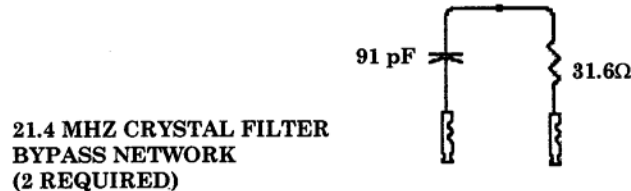
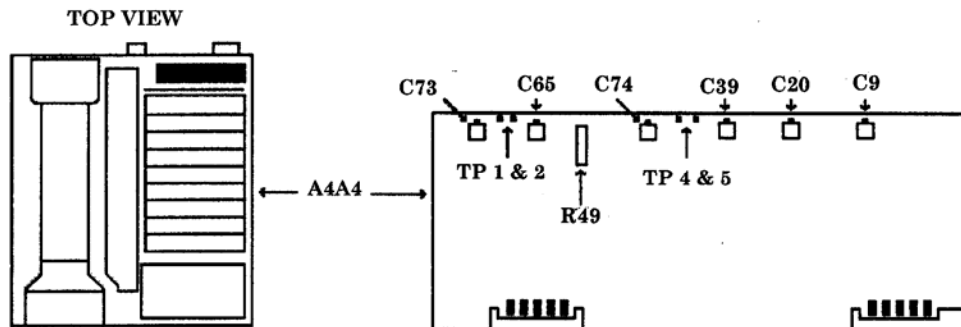
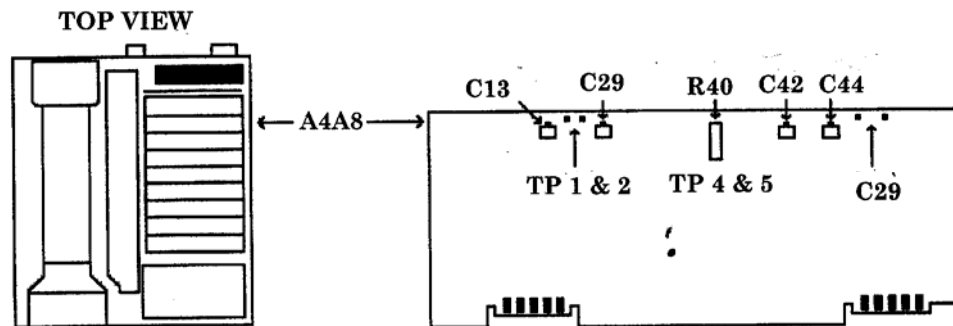

Figure 18. 21.4 MHz filter.
Figure 19. A4A4 test points.
Figure 20. A4A8 board.
The pictured filter (fig. 18) is required to continue with this adjustment routine.
(73) Press TI keys as listed in (a) through (e) below:
(74) Adjust TI **DATA** knob to position trace at (or just below) reference level (top) graticule line.
(75) Connect 21.4 MHZ CRYSTAL FILTER BYPASS NETWORK(S) (fig. 18) between A4A4TP1 and A4A4TP2 and between A4A4TP4 and A4A4TP5 (fig. 19).
(76) Adjust A4A4C20 (fig. 19) to center signal on center vertical graticule line.
(77) Adjust A4A4C9 (fig. 19) for best symmetry of signal.
(78) Remove 21.4 MHZ CRYSTAL FILTER BYPASS NETWORK(S) (fig. 18) from between A4A4TP4 and A4A4TP5 (fig. 19).
(79) Adjust A4A4C74 (fig. 19) to center signal on center vertical graticule line.
(80) Adjust A4A4C39 (fig. 19) for best symmetry of signal.
(81) Remove 21.4 MHZ CRYSTAL FILTER BYPASS NETWORK(S) (fig. 18) from between A4A4TP1 and A4A4TP2 (fig. 19).
(82) Adjust A4A4C73 (fig. 19) to center signal on center vertical graticule line.
(83) Adjust A4A4C65 (fig. 19) for best symmetry of signal.
(84) Press TI keys as listed in (a) through (c) below:
- (85) Adjust A4A4R49 (fig. 19) to align markers on TI display. **MKR  $\Delta$**  level should indicate 1.00X.
- (97) Press TI keys as listed in (a) through (c) below:
- (98) Connect 21.4 MHz CRYSTAL FILTER BYPASS NETWORK(S) (fig. 18) between A4A8TP1 and A4A8TP2 (fig. 20).
- (99) Adjust A4A8C44 (fig. 20) to center signal on center vertical graticule line.
- (100) Adjust A4A8C42 (fig. 20) for best symmetry of signal.
- (101) Remove 21.4 MHZ CRYSTAL FILTER BYPASS NETWORK(S) (fig. 18) from between A4A8TP1 and A4A8TP2 (fig. 20).
- (102) Connect 21.4 MHZ CRYSTAL FILTER BYPASS NETWORK(S) (fig. 18) between A4A8TP4 and A4A8TP5 (fig. 20).
- (103) Adjust A4A8C29 (fig. 20) to center signal on center vertical graticule line.
- (104) Adjust A4A8C13 (fig. 20) for best symmetry of signal.
- (105) Remove 21.4 MHZ CRYSTAL FILTER BYPASS NETWORK(S) (fig. 18) from between A4A8TP4 and A4A8TP5 (fig. 20).
- (106) Press TI keys as listed in (a) through (c) below:
- (107) Adjust A4A8R40 (fig. 20) to align markers on display. **MKR LVL** should indicate 1.00X.
- (108) Press TI **2-22 GHz** key.
- (109) Set attenuators for 25 dB.
- (110) Press TI keys as listed in (a) through (h) below: